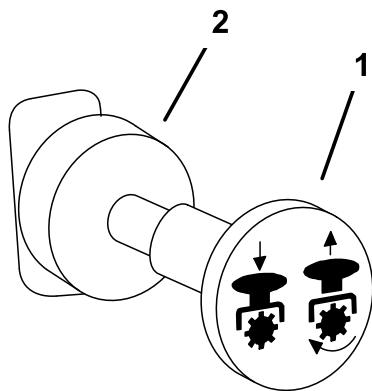

Figure 12
3. Move the PTO (power take off) switch to the Off position (Figure 12).
1. Push the PTO to the off position (Figure 12).